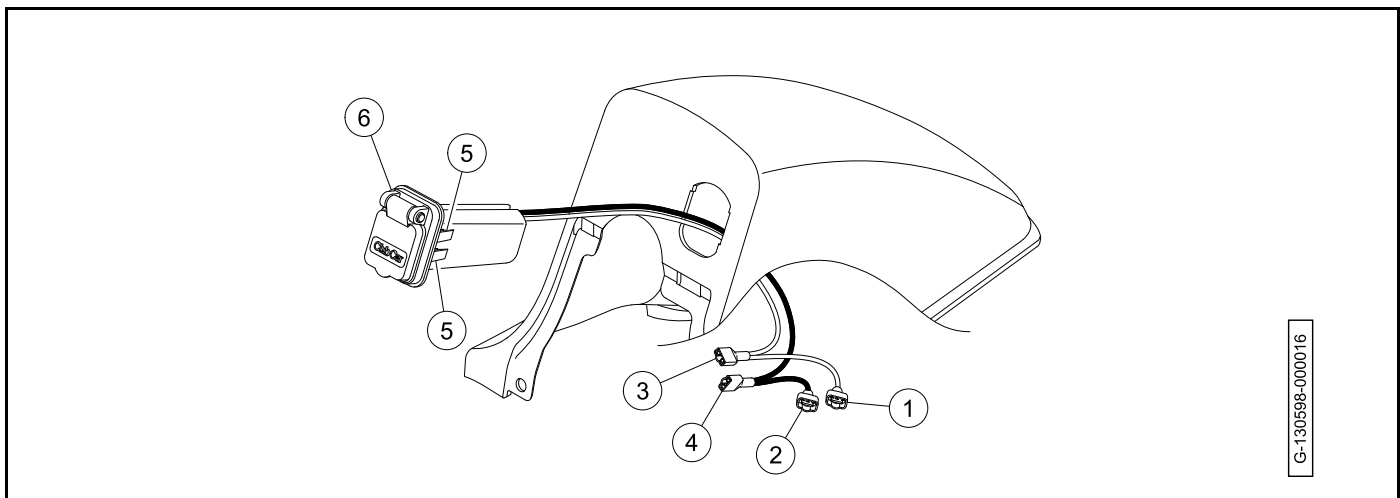

Figure 20-40 USB Receptacle
3. Disconnect the USB receptacle wires (1 and 2) from the instrument panel wires (**Figure 20-40, Page 20-36**).
2. Push the USB receptacle (6) into the dash (**Figure 20-40, Page 20-36**).
3. Make sure that the locking tabs (5) engage.
4. Connect the red instrument panel wire to the red USB receptacle wire (1).
5. Connect the black instrument panel wire to the black USB receptacle wire (2).
6. Connect the red USB receptacle wire (3) to key switch 2 terminal.
7. Connect the black USB receptacle wire (4) to key switch M- terminal.